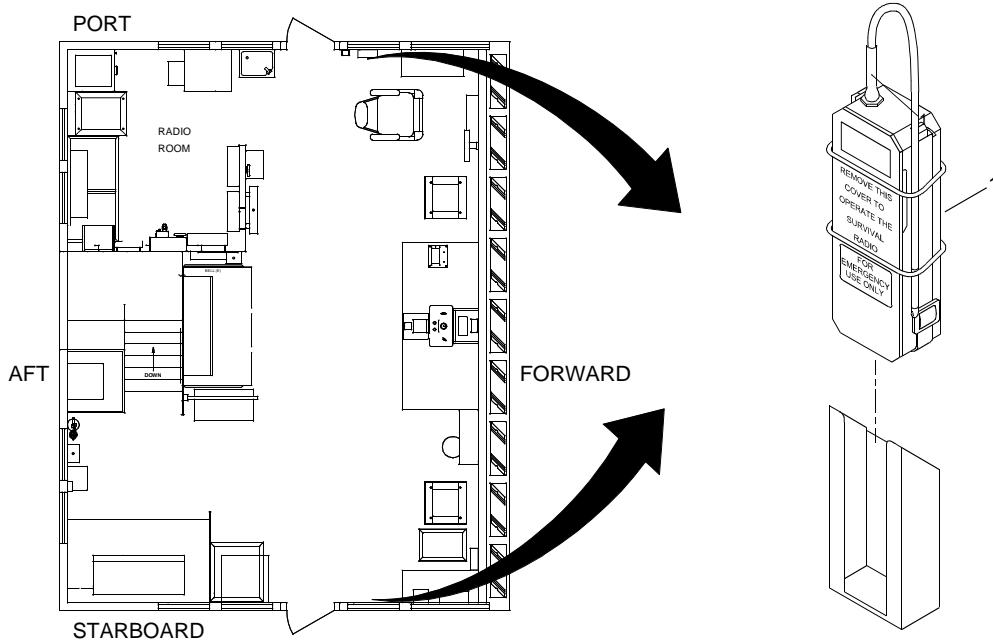

Figure 10. Lifeboat Radio (LBR) Location
The 16/6 lifeboat radio (figure 10, item 1) is a portable two-way radiotelephone used for on-scene emergency communications between survival craft and rescue units. The radio is equipped with a 5 year lithium battery pack, which is operator replaceable. The radio will operate on either channel 6 or 16. The radio is FCC type accepted and GMDSS listed (FCC Part 80.1101) as a survival craft two-way VHF radiotelephone apparatus which complies with the 1988 GMDSS Safety Of Life At Sea (SOLAS) amendments. The lifeboat radio should be tested semi-annually using a spare lifeboat radio battery. Two lifeboat radios are installed on the vessel.